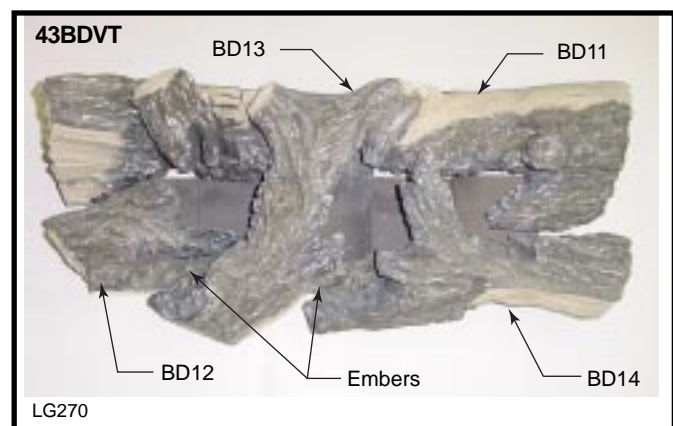

Fig. 39 43BDVT log placement.
Refer to Figure 39.
7. Scatter the ember material over the front area of the burner housing assembly. (Fig. 39) Do not pack this material tightly, separate it when unpacked and keep it in a loose condition.